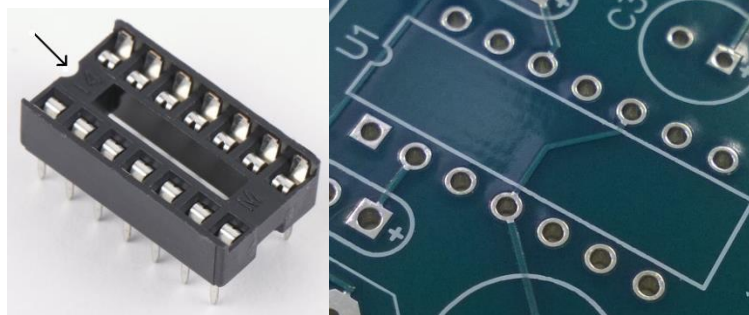

Figure 2: IC and IC Socket Orientation
- 7) Solder the IC socket with the correct orientation onto the board. Keep note of the notch on one end of the socket, (Figure 2). You will see a corresponding notch on the PCB right near "U1". Then insert the IC into the IC socket, again matching the notch on the IC with the notch on the socket and PCB.